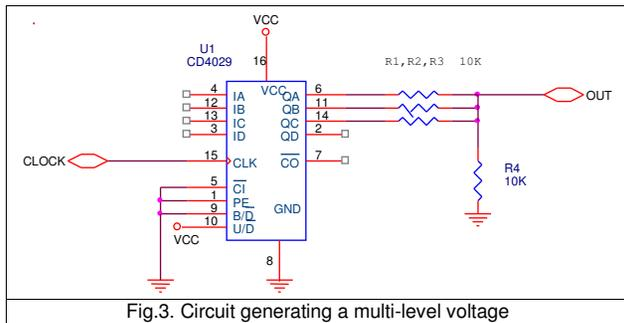

Fig.3. Circuit generating a multi-level voltage
g) calculate N_s necessary so that f_s does not decrease under the value of 1GSa/s at $C_x \leq 5ms/div$, based on relation (1). Compare with N_s available on the TDS1001 !
9. Make the circuit from Fig.3. Use the supply set on 6V (*verify, using the voltmeter, the voltage and the polarity*). At the **CLOCK** input connect a TTL signal of frequency 20kHz. The signal is obtained from the TTL output of the generator (to activate it press **SHIFT+TTL** on the generator keyboard).